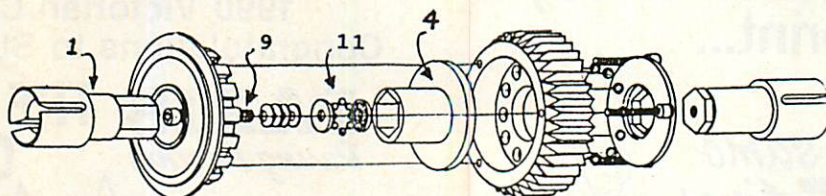

FIGURE 7
Still with us? Good, now you should be able to figure out what makes a good diff and recognise one when you see it. Take a look at fig 7. Thorp from the USA have been making and developing ball diffs from year dot and this is their latest expression of the art. There are more parts and the diff is a little more complex than usual but everything has a purpose. For example, the ball thrust washer (11) and adjusting screw (9) are all protected from damaging dirt by the plug-in nature of the left hand side dog-bone carrier (1) into the LH pressure disc (4). Just pull out the dog-bone carrier to gain access to the adjusting through bolt.